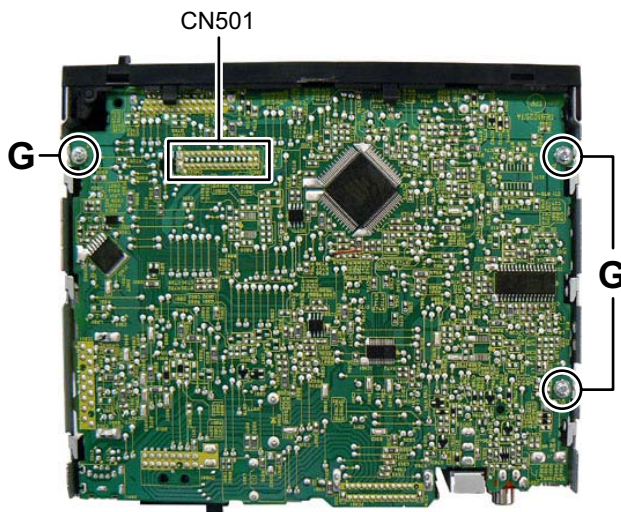

Fig.6
- (3) Remove the three screws **G** attaching the main board and then disconnect the board to board connector **CN501** connected to CD mechanism. (See Fig.6)